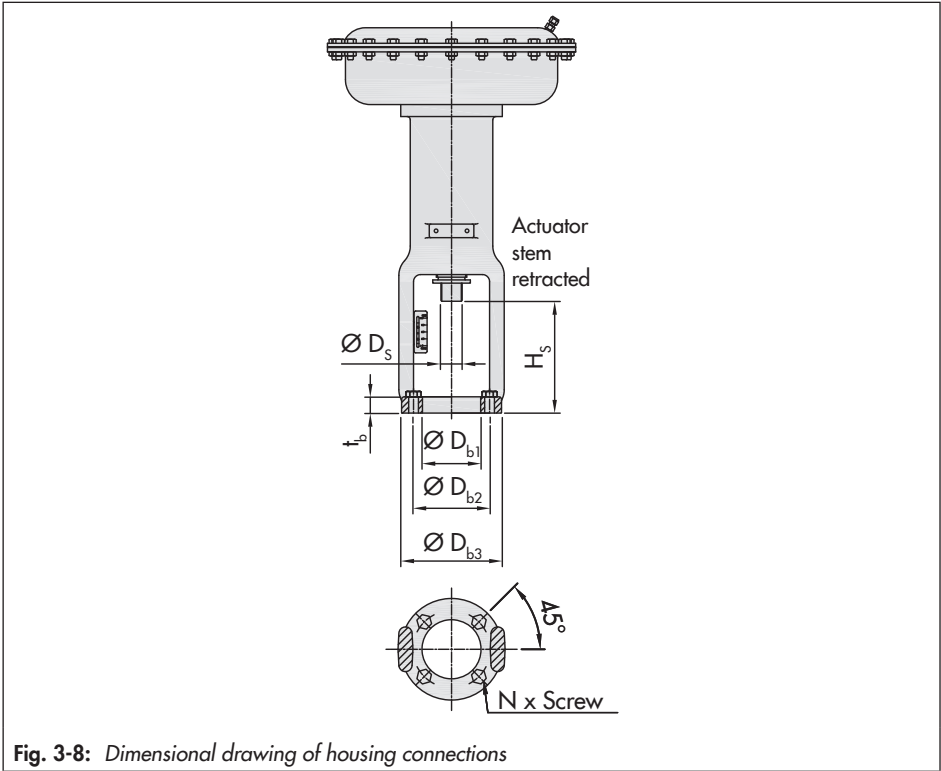

Fig. 3-8: Dimensional drawing of housing connections
**Table 3-4:** See Fig. 3-6 and Fig. 3-8 for dimensions and weights of Type RVXXXD
**Table 3-5:** See Fig. 3-7 and Fig. 3-8 for dimensions and weights of Type RVXXXR